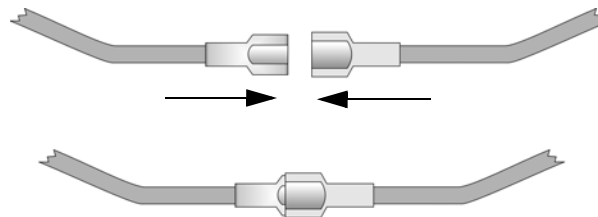

Figure 4-5 Splicing Control panel Battery Cable to RBB Battery Cable Extenders
2. Connect the main control panel battery cables to the battery cable extenders as shown in Figure 4-5.